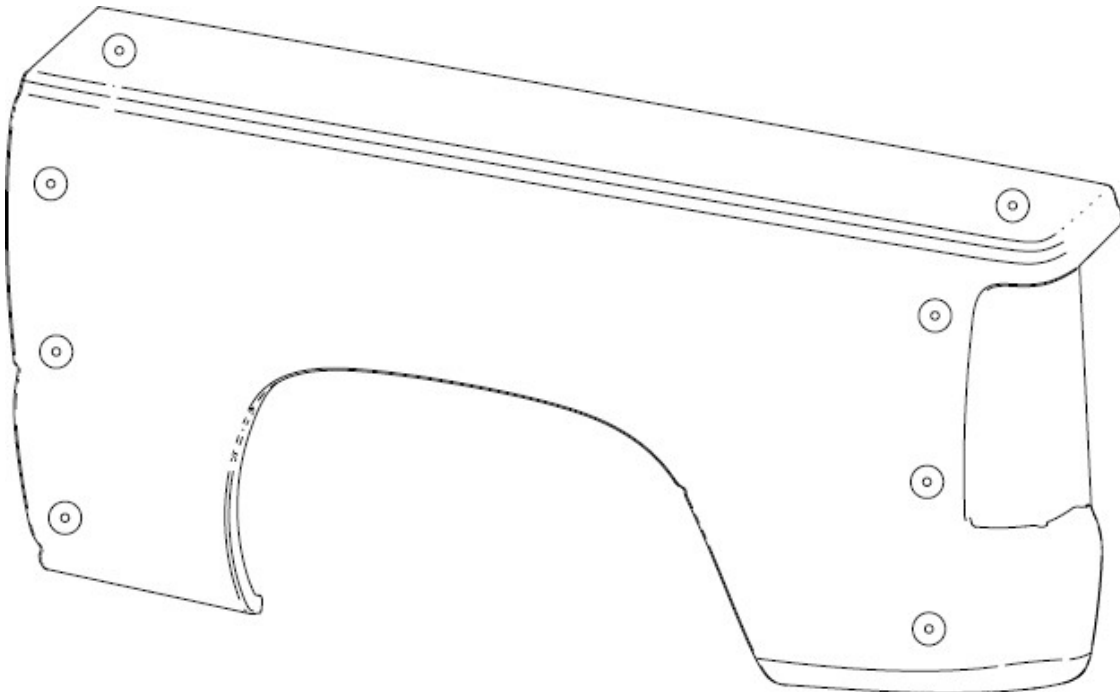

Figure 10 TRUCK BEDSIDE PANEL
- Bed sides must have a minimum of four ¼ inch minimum bolts or Dzus buttons evenly spaced at front of bedside and four ¼ inch minimum bolts or Dzus buttons evenly spaced at rear of bedside. Bolts or Dzus buttons must have 2 inch washers and be aligned in a vertical fashion. Forward bed side hangers must be independent of cab. See diagram on FIG 10.